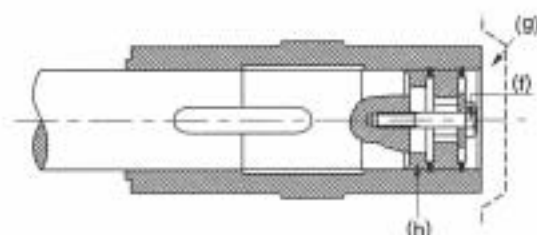

Fig. 11 Securing (Driven shaft without shoulder)
Special cases (Fig. 11)
- (1) If the driven shaft has no shoulder (Fig. 11) when mounting, provide a distance ring (h) for fixing in place. (Distance ring (h) is not supplied with the unit.)